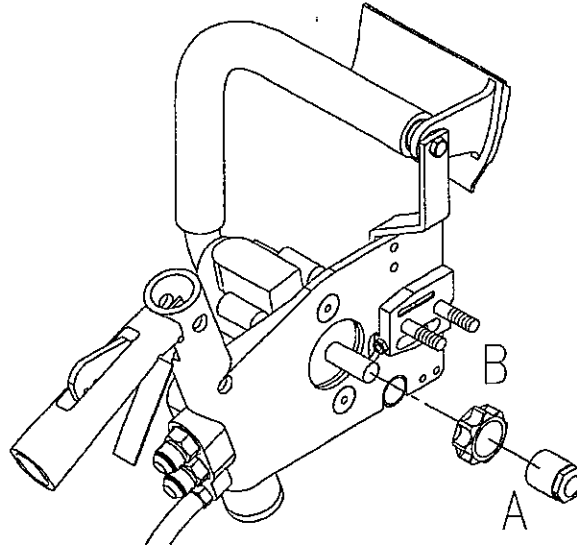

**Figure 4-2
4. Check the clearance between the nose of the bar side-plates and the chain chassis; when new, there is 1/32" clearance. The nose sprocket must be replaced before the chain chassis begins to ride directly on the nose of the bar side-plates. Refer to Figure 4-2.